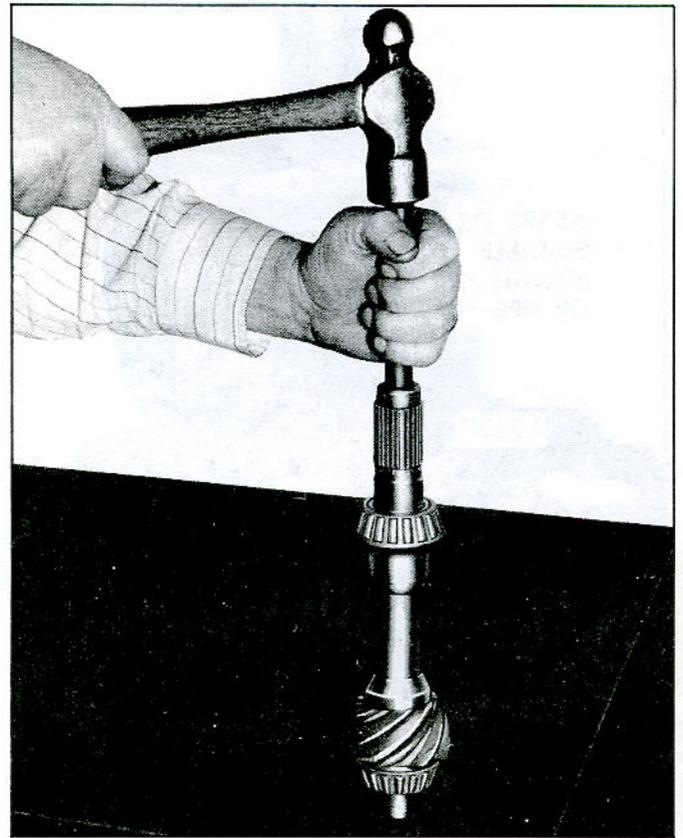

Fig. 41—Installing Pinion Shaft Bushing with J-8333
2. Install new bushing with J-8333 as shown (fig. 41). A stop is provided on the tool to press the bushing to the prescribed depth.